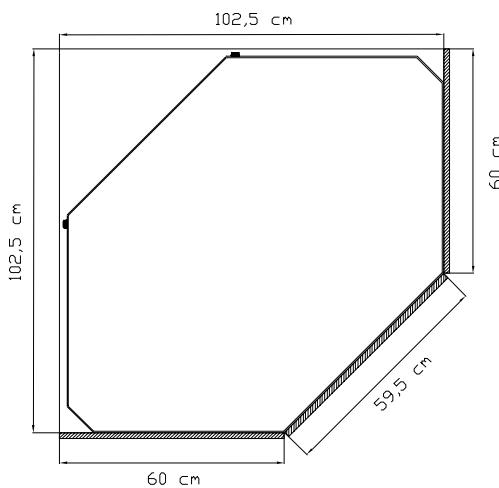

Fig. 8
3. Integration of corner fridge in 2.10m (see fig 8)
5. Fitting furniture sides (see figure 8)